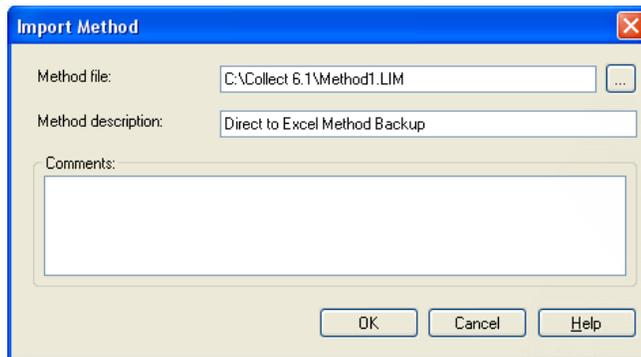

Figure 3.19: Import Method
2. An [Import Method] dialog box similar to the example shown in Figure 3.19 will appear.